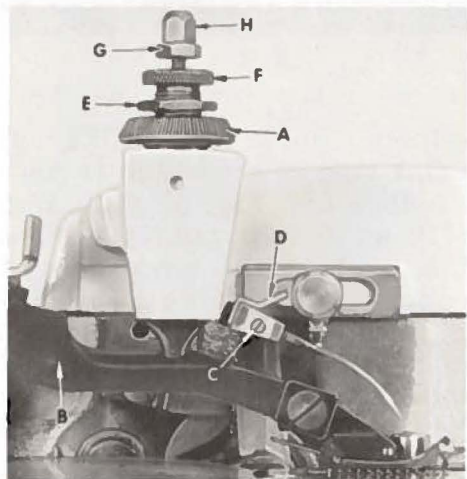

Fig. 2
Release pressure on presser foot by turning presser foot release bushing (A, Fig. 2) and swing presser arm (B) out of position. With needle at high position, loosen screw (C) and withdraw needle.
Sufficient presser foot pressure to feed work uniformly should be maintained. Should it be necessary to increase or decrease amount of pressure on presser foot, loosen lock nut (E, Fig. 2) and turn adjusting screw (F). Adjusting screw has a right hand thread, so tightening increases pressure, loosening decreases pressure. When pressure adjusting screw (F) has been properly set, tighten lock nut (E). With presser foot resting on throat plate, position locking nut (G) so that its under surface is approximately  $1/32$  inch to  $1/16$  inch from the top surface of adjusting screw (F). Set cap (H) against locking nut (G).